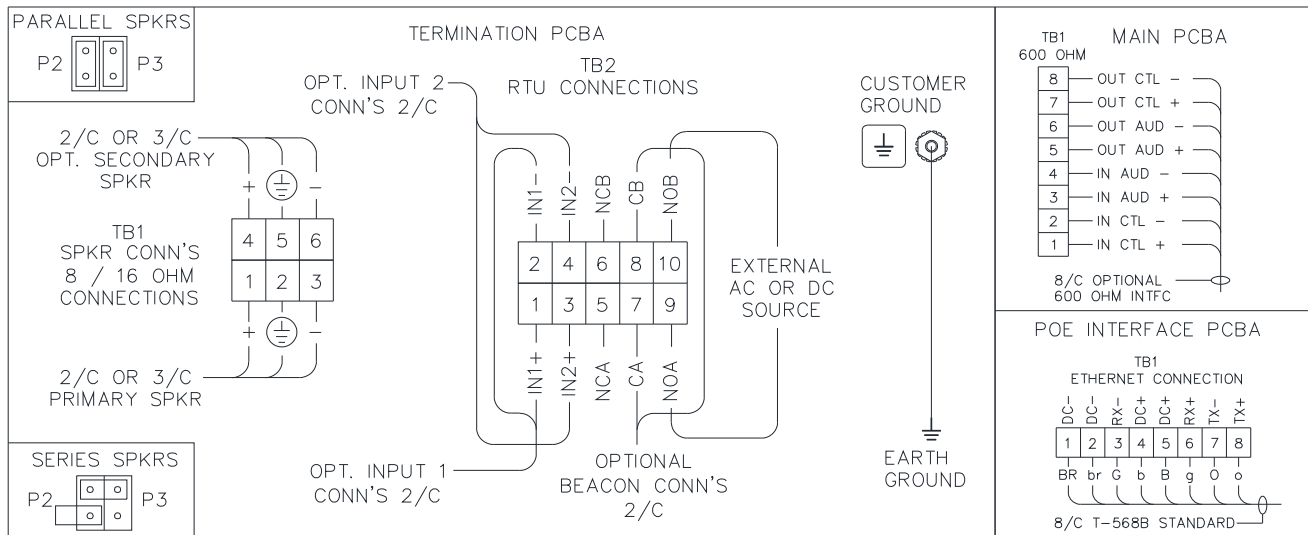

Figure 3. SP2 PoE Weatherproof Connection Diagram
SP2 stations provide terminal blocks, on the termination PCBA, located in the rear enclosure, for field wiring the speaker and RTU connections. The main PCBA, mounted to the back of the front panel, provides a pluggable terminal block for the 600-ohm audio connection. The PoE interface PCBA, mounted on top of the main PCBA, provides a pluggable terminal block for the PoE connection (see Figure 3).
5. Configure the speaker jumpers, P2 and P3, for the impedance of the connected speakers (see Figure 3).
9. Terminate the PoE connection to terminal block TB1 on the PoE interface PCBA (see Figure 3).